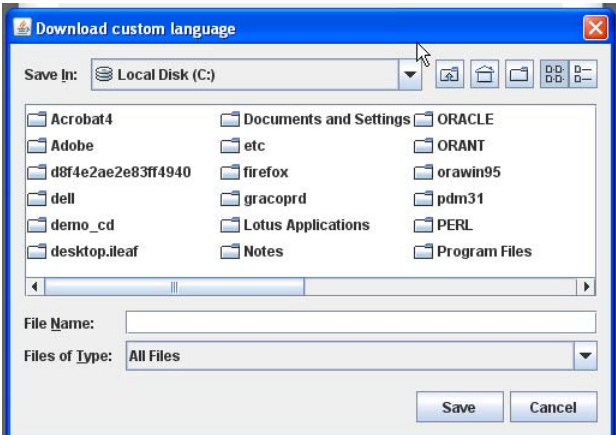

FIG. 10: Download Custom Language
**Download custom language** - saves the current system language to the PC. See FIG. 10. This file is opened and a custom language added to the B column of the Excel file.